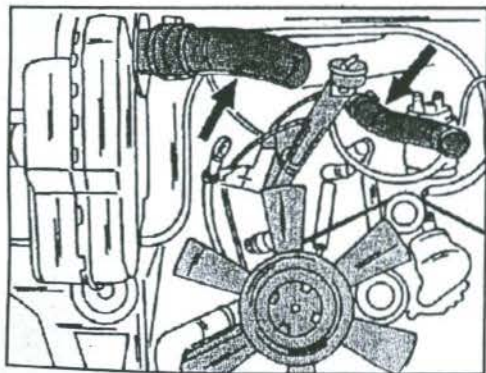

Fig. 1.7 – Remove the two hoses shown by the arrows after slackening the hose clamps.
- Disconnect the air intake hose and the coolant hose shown in Fig. 1.7.